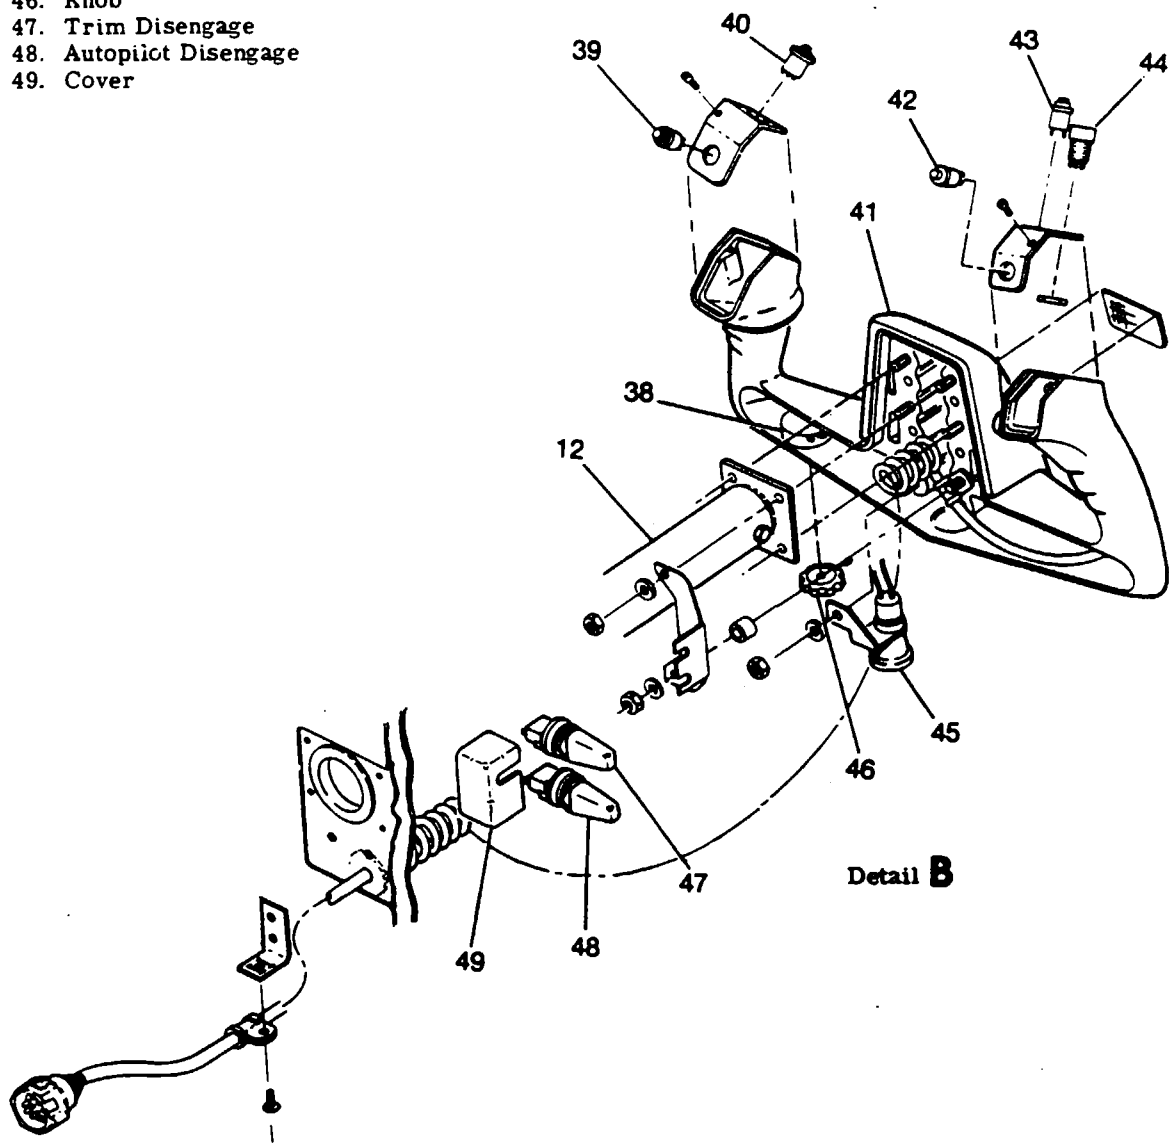

Figure 6-2. Control Column Installation (Sheet 3 of 3)
6-8. BEARING ROLLER ADJUSTMENT. (Refer to figure 6-2.) Each bearing assembly (11) has an 0.062" eccentric adjustment when installed. for aligning the control tube weld assembly and push-pull tube (18) with the guide assembly (23). For alignment, proceed as follows:
- b. Install cover plate (14) backwards (bearing on aft side) and leave loose with instrument panel.
c. Align control wheel tube assembly (12) for free travel of push-pull tube (18) along full length of guide assembly (23).
d. Center cover plate (14) over tube and bearing assembly and secure plate to instrument panel.
e. Adjust each bearing (11) to control wheel tube assembly and tighten bearings in place.